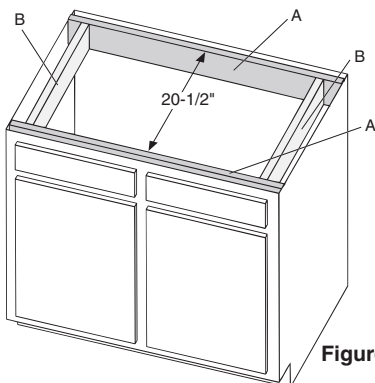

Figure 4
**2.** Attach two support boards to the sides of the cabinet, one in front and one in back, placing them 20-1/2" apart and equal distances from the centerline (see Figure 4-A below). Place the boards at the proper height to allow the top of the sink to be flush with the top of the cabinet. It may be necessary for you to reinforce the sides of the cabinet to support the 350-pound minimum.
**4.** Now that you have the sink in position, attach two more 20-1/2" boards between the support boards (See Figure 4-B.)